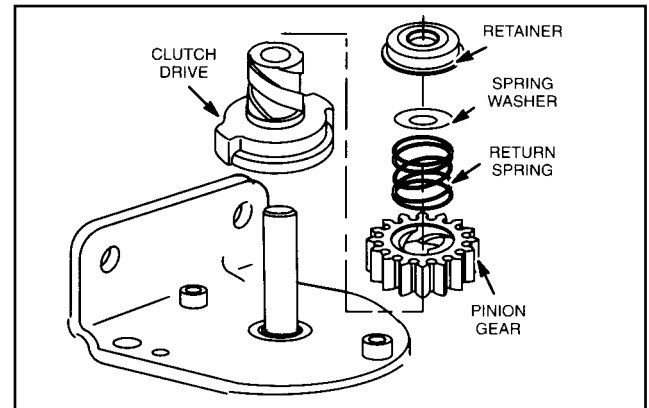

Fig. 9 - Assemble Starter Drive
1. Assemble clutch drive to starter shaft and rotate clutch until it drops into place, Fig. 9.